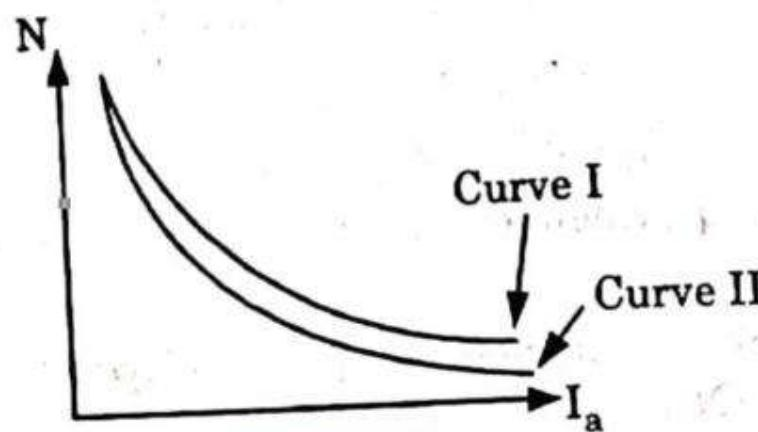

Fig. 4.8.2.
4. As I_a increases, the flux increases and hence the speed decreases as shown by curve I in Fig. 4.8.2.
5. As I_a increases, $I_a(R_a + R_{se})$ drop increases, thus E_b decreases and speed also decreases as per eq. (4.8.1) and (4.8.3). This decrease in speed due to ohmic drop is shown by curve II in Fig. 4.8.2.